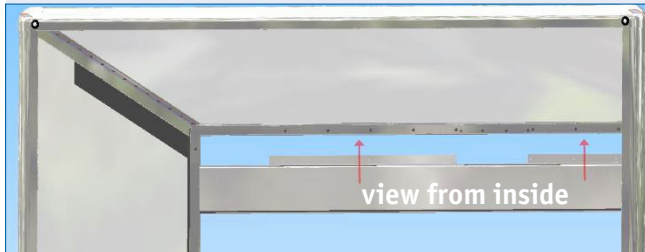

Fig. 2.1.1
- Align the rear frame in the diagonal. In the next step insert the lintel from the bottom to the top (Fig. 2.1.1).